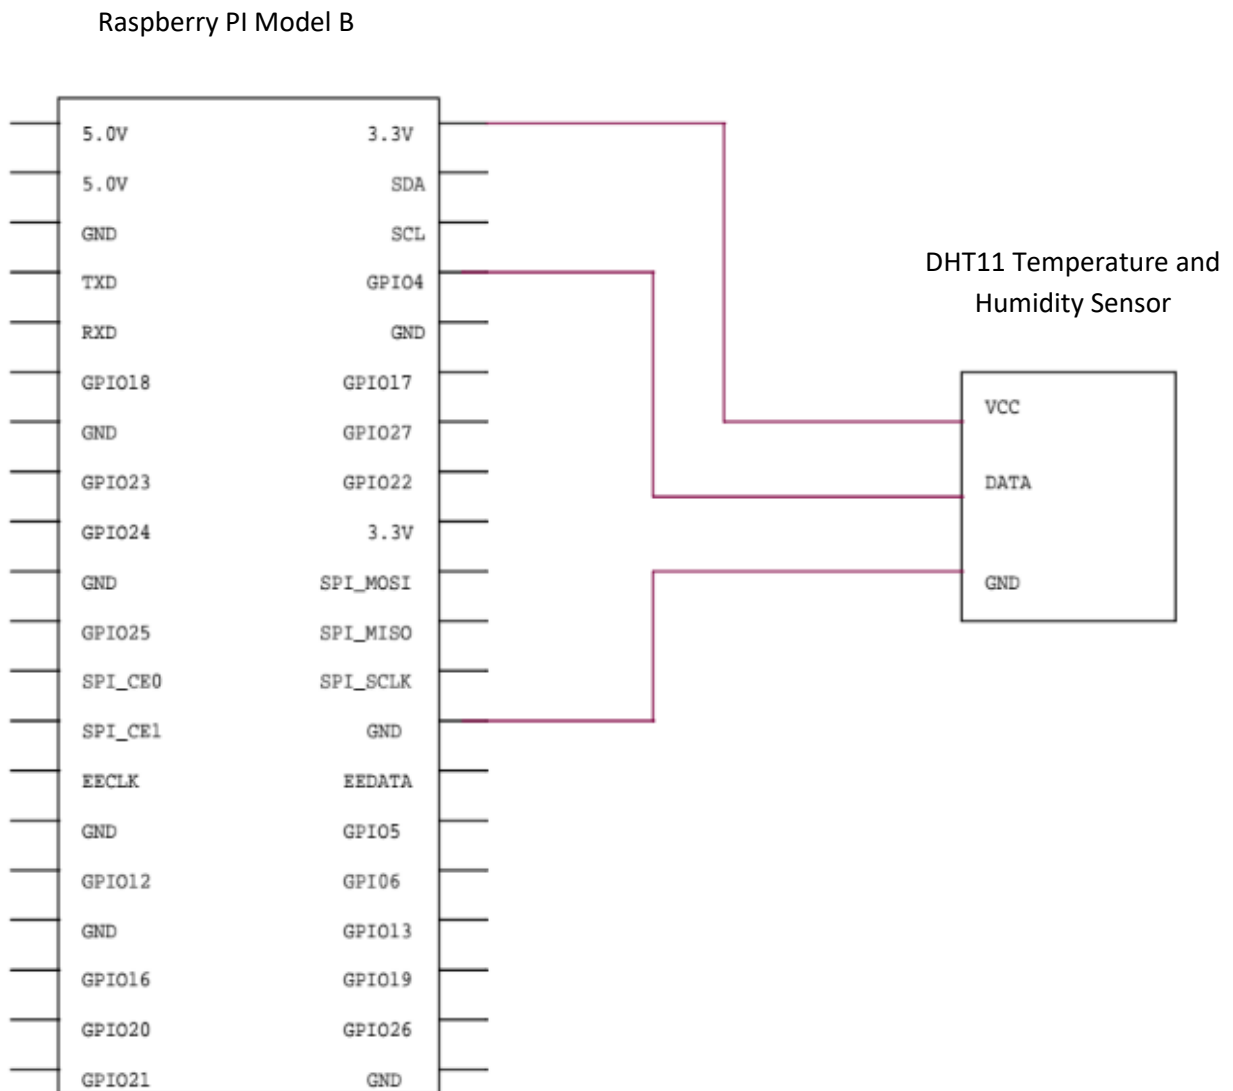

Figure 6: Schematic of the System
7. Figure 6: Schematic of the System